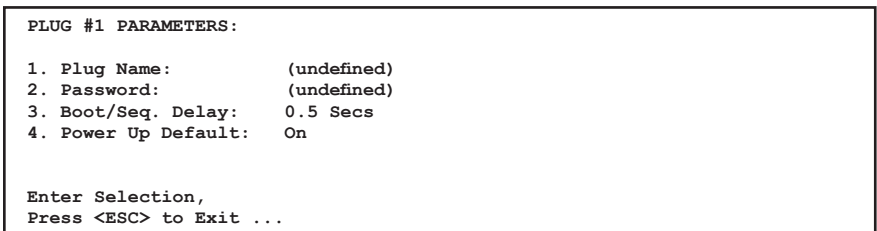

Figure 5.8: Plug Parameters Menu - Text Interface (Plug 1 Shown)
- **Text Interface:** Type `/P n` and then press **[Enter]** (Where `n` is the number or name of the plug you wish to configure.) The Plug Parameters Menu will be displayed as shown in Figure 5.8.